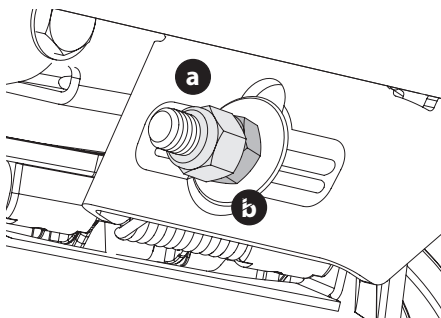

Figure 35
5. To raise the front of the deck, remove the end cap, loosen the outer jam nut (a) then tighten (thread inward) the inner nut (b) against the front hanger bracket. When proper adjustment is achieved, re-tighten the outer jam nut (a) and replace the end cap (Figure 35).